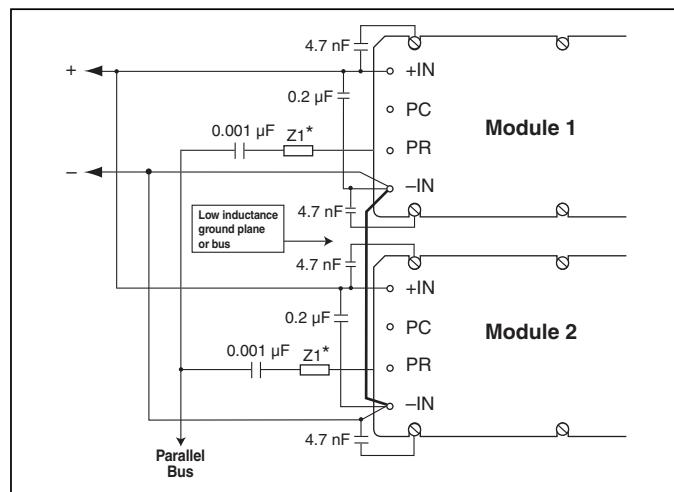

Figure 9 — AC coupled single-wire interface.
*AC coupled single-wire interface.* All PR pins are connected to a single communication bus through 0.001 μF (500 V) capacitors. This interface supports current sharing and is fault tolerant except for the communication bus. Up to three converters may be paralleled by this method. See Figure 9.